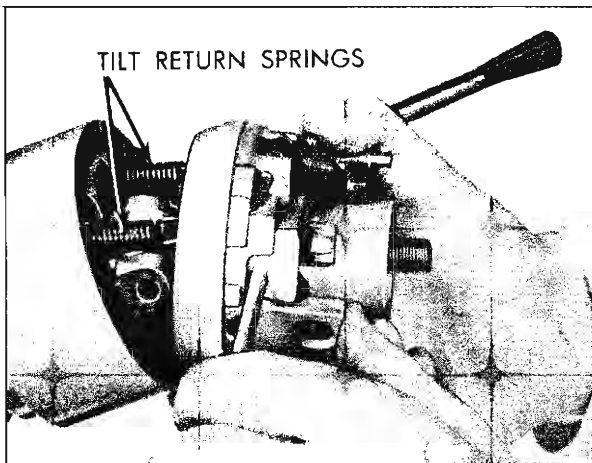

Fig. 22—Removing the Actuator Assembly
12. Lift the tilt lever to disengage the lock shoes from the support locking pins, (fig. 22) pull actuator assembly away from actuator support, then release tilt lever and remove actuator assembly with horn wire and shift indicator lamp wire, leaving the turn signal cable in the mast jacket. Also untie the string from the horn wire and leave the string in the mast jacket.